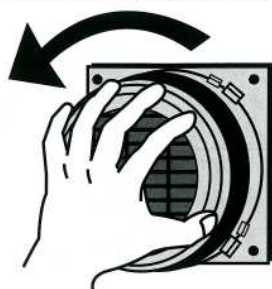

FIG. 6
9. This ventilator can be easily released off by twist anti-clockwise (see fig 6), for cleaning dust after long period running. To fix the unit by twisting clockwise into the 4 slots (see fig 7).